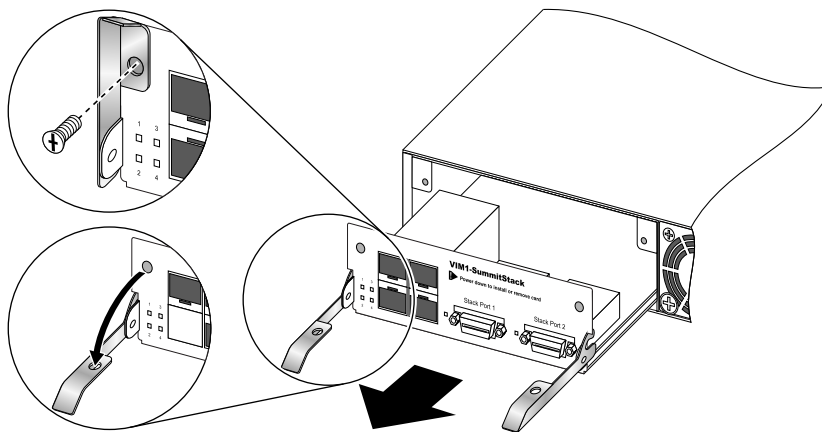

Figure 379: Removing a VIM (VIM1-SummitStack Module Shown)
- 3 Remove the installed VIM (see Figure 379: Removing a VIM \(VIM1-SummitStack Module Shown\) on page 395):